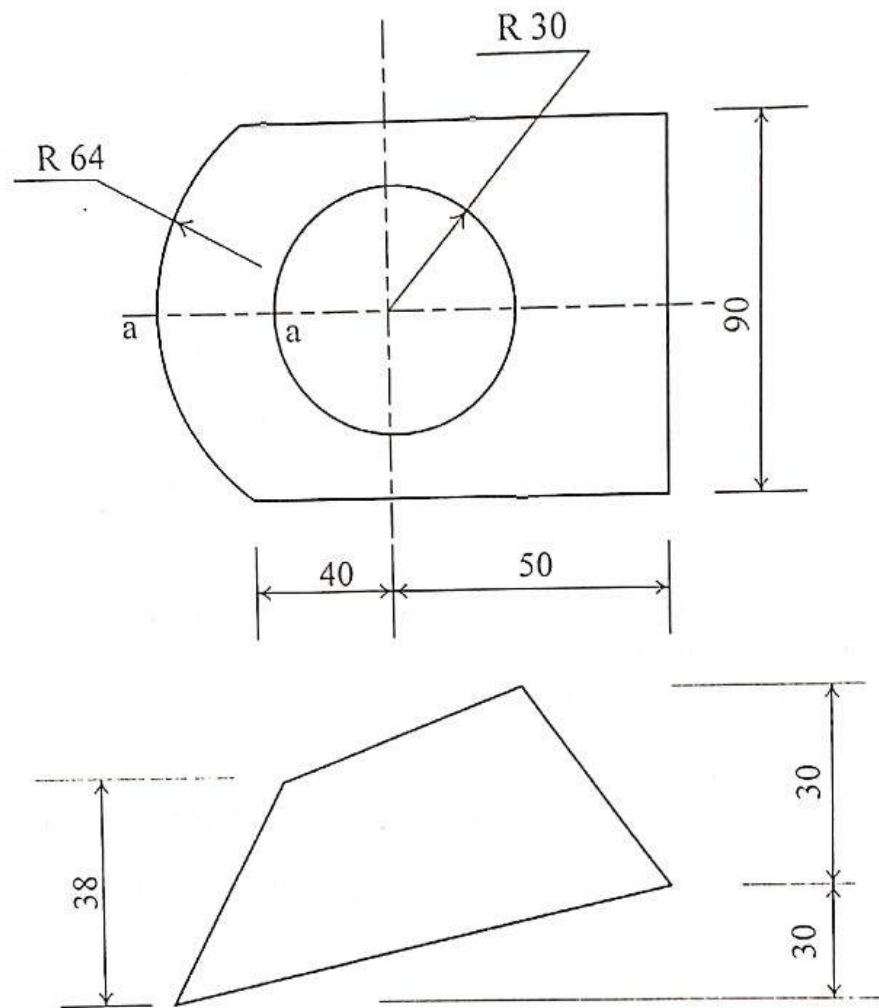

FIG.6
5. Make a full development of the transition piece shown in figure 6 making a-a the seam.